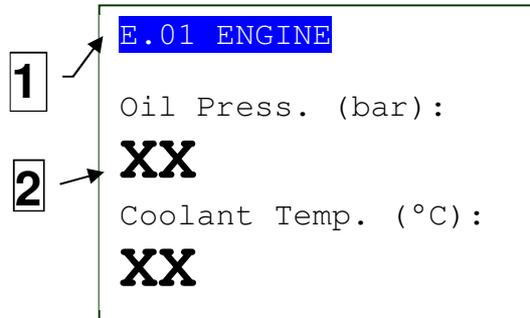

Fig. 3 - Display areas
4.4.4 Display area layout (ref. to fig. 3)